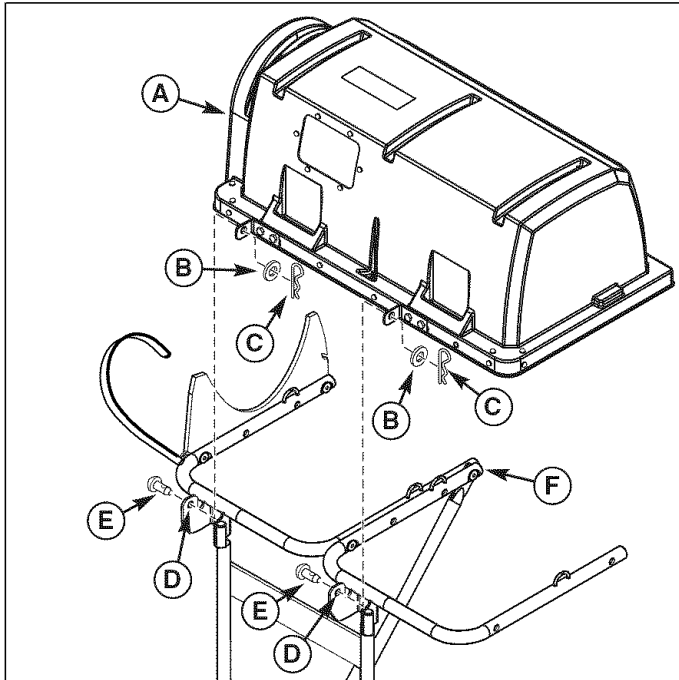

Figure 6. Install Hopper Top
1. Attach the hopper top (A, Figure 6) to the bag support (F) by inserting clevis pins (E) through the bag support holes (D) and hopper top (A). Secure with washers (B) and hair pins (C). Make sure hopper brackets are to left of bag support brackets.